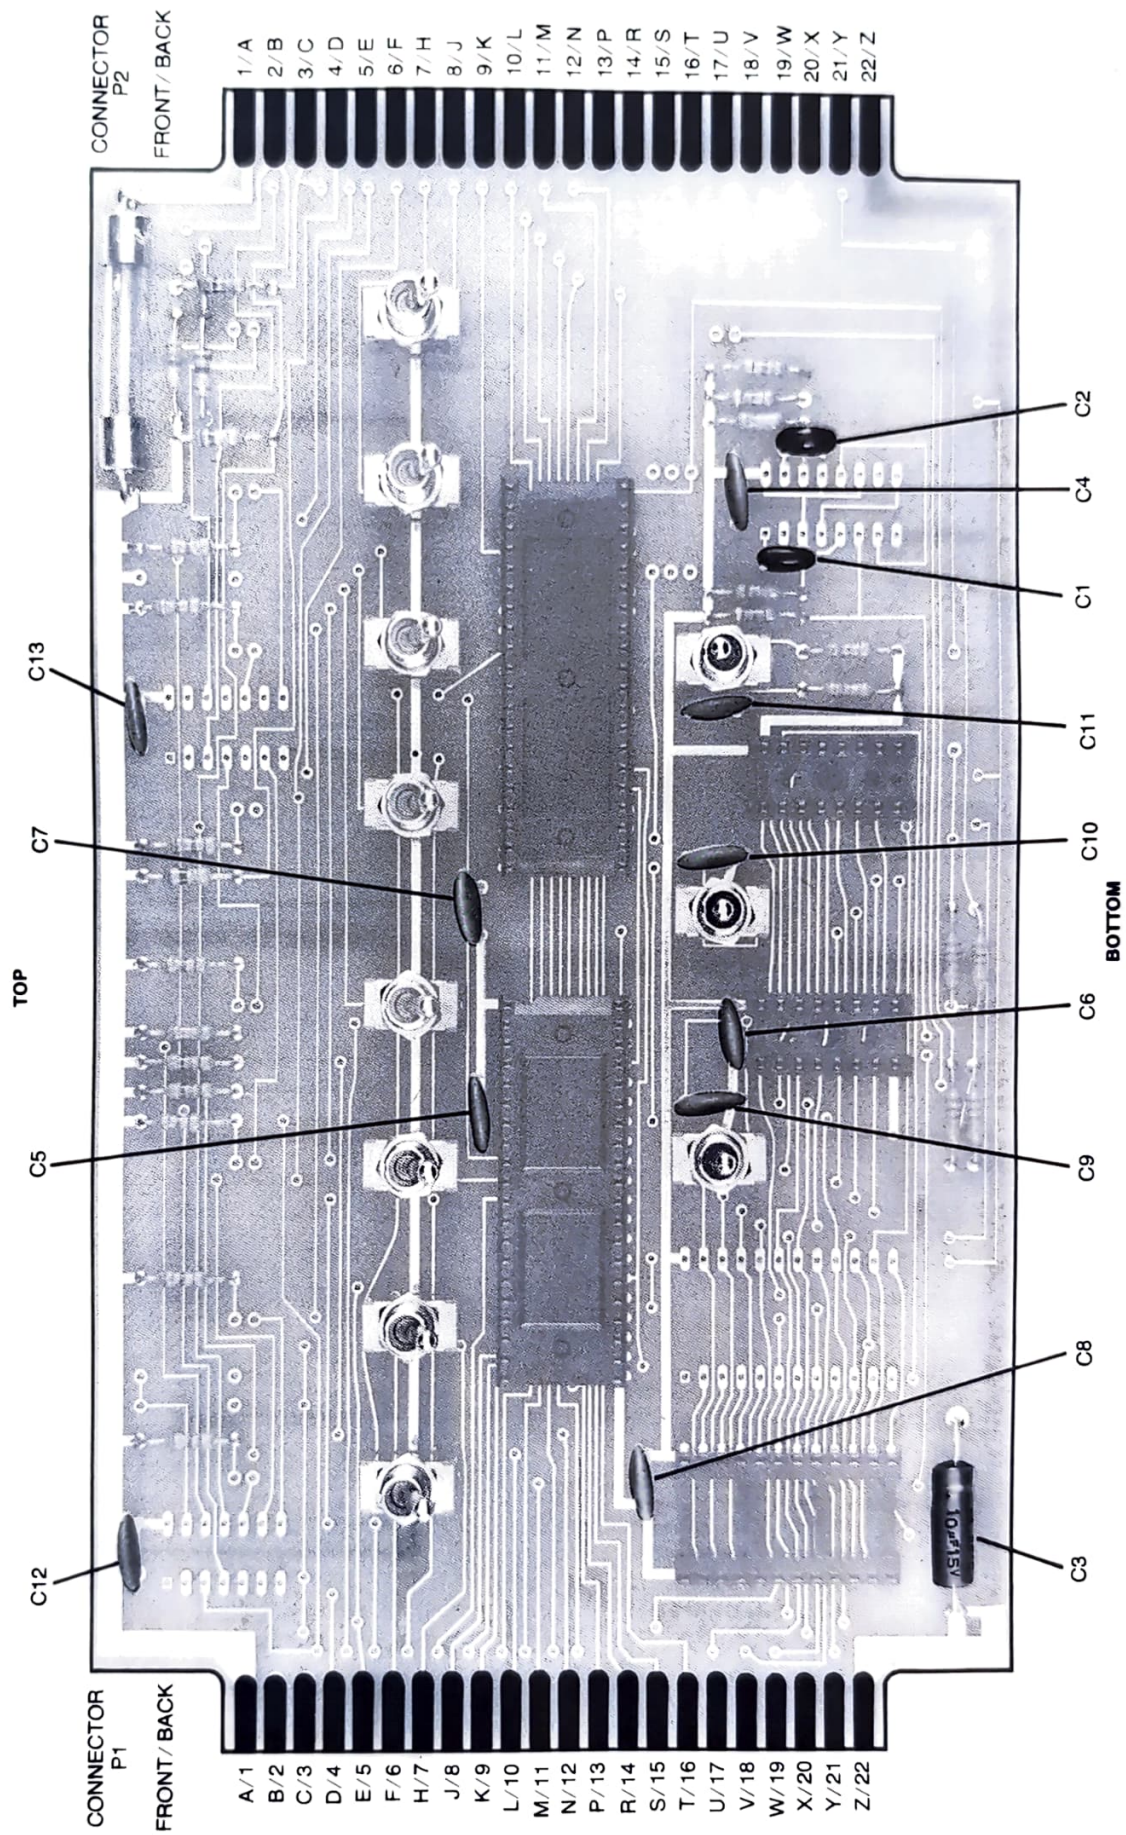

FIGURE 1-3. Installation of Capacitors
The next step is to install the capacitors. In this procedure, all of the capacitors of one value are installed in separate steps to avoid installing the wrong value. Figure 1-3 shows the location of all capacitors installed in this procedure. Since capacitors cannot be checked with a VOM, no resistance or continuity checks are performed after installing these parts. These parts can only be checked during operation.
3. Locate and install the ten 0.1 μ f (microfarad) disk capacitors (yellow) into the holes marked C4 through C13. (These capacitors are spread around the board, so refer to Figure 1-3 for parts location.) Carefully solder the leads of these capacitors on the back of the printed circuit board. Trim off the excess lead lengths.